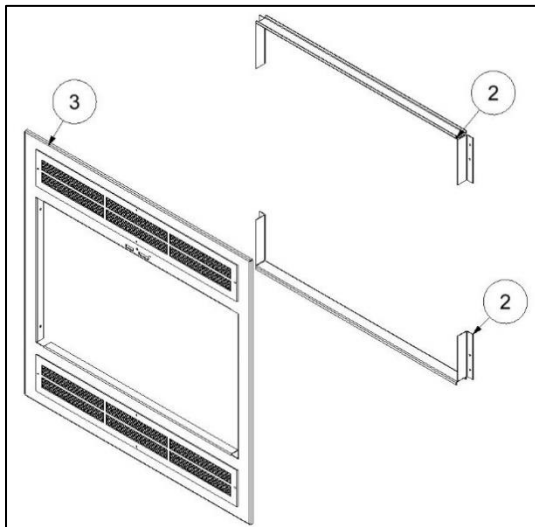
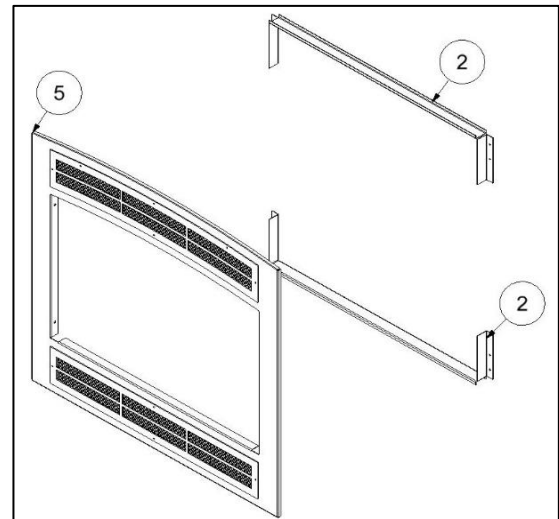

Figure 3-11: Traditional Rectangular Surround Components
Figure 3-12: Traditional Arched Surround Components
The traditional surround comprises louvers below (intake) and above (outtake) the door. All components and fasteners are included in the surround kit. Refer to Figures 3-11 and 3-12 and Tables 3-2 and 3-3 for the instructions below.
4. Place the surround (Item 3 in Figure 3-11 or Item 5 in Figure 3-12) within the door holder and secure it in place with four black screws (one on each corner). Make sure that the handles of the Combustion Air Control pass through the slots of the surround.